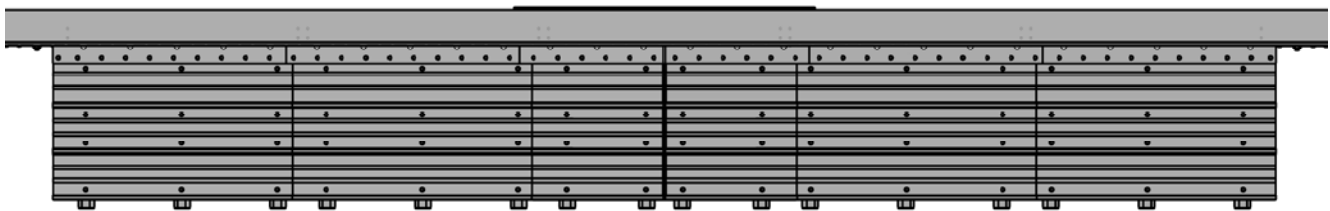

FIGURE 19
3. Place the Ridge Roof Sheet (C-041-00) back on the canopy. Center it to make sure it is under the Transition Flashing and centered on the ridge. Using the Structural Screws (F-051-00) fasten to the Hat Purlins per **Figure 19**. Using the roll of Tape Sealant, apply to the last major roof panel corrugation under the Transition Flashing from eave to eave. Remove paper and secure the Transition Flashing to the Roof Sheets with Stitch Screws (F-051-00) 6" on center.